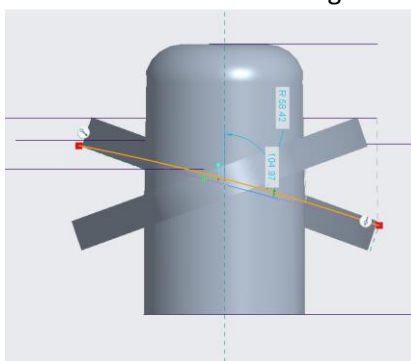

Fig2.4
- Now add a sweep path along the width of the propeller on the new plane as shown in fig2.4
- Create a sweep section as shown in fig2.4 and sweep the section using